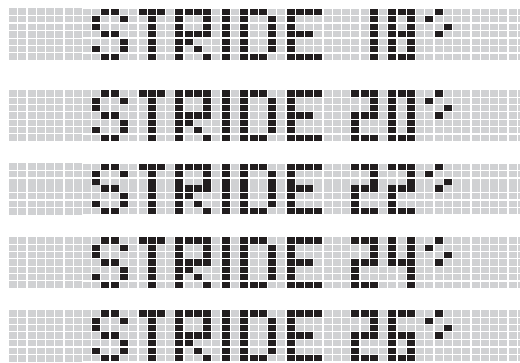

FIGURE 42
2. You can change the stride length by pressing the preset stride lengths. (FIGURE 42)